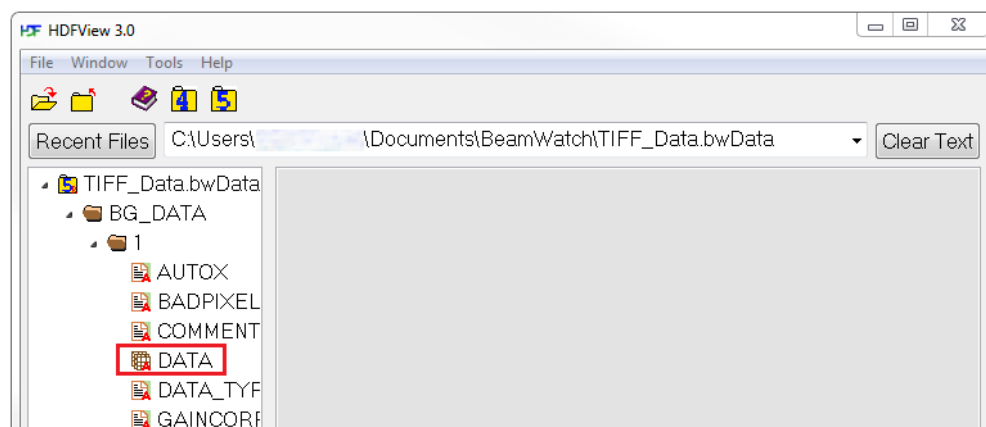

Figure 24: DATA Location in HDFView
8. Right-Click on **DATA** (Figure 24) and select **Open**.